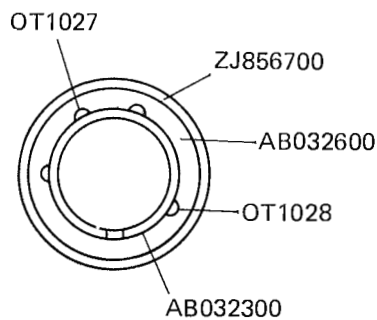

Fig. 11-17
(1) Bond with Adhesive OT1027 at one point.
(2) Bond with Adhesive OT1028 at three points. (See Fig. 11-17)
(See Fig. 11-17)